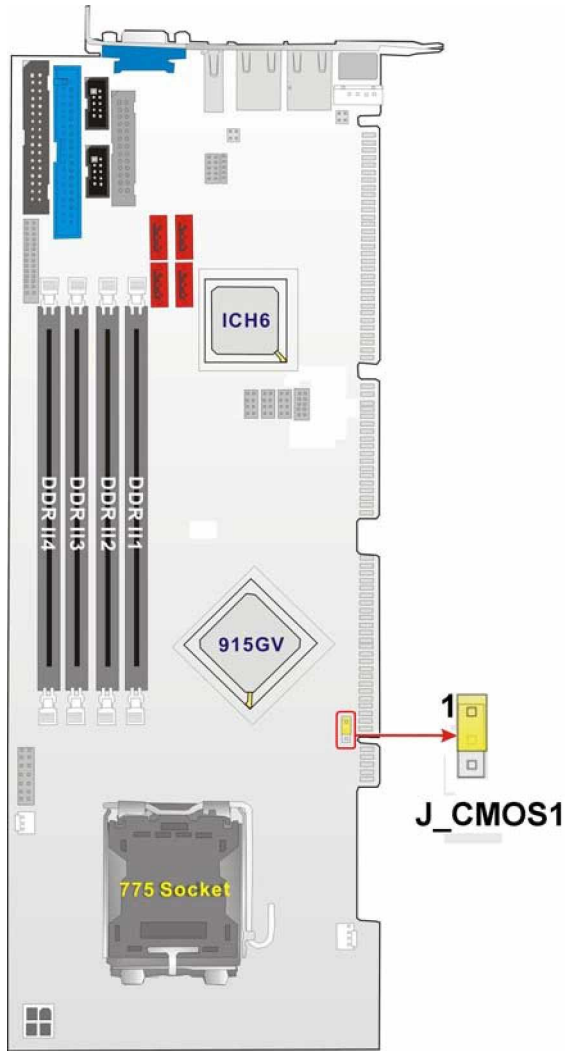

Figure 3-22: J\_CMOS1 Jumper Location
- Jumper Location:** See **Figure 3-22**